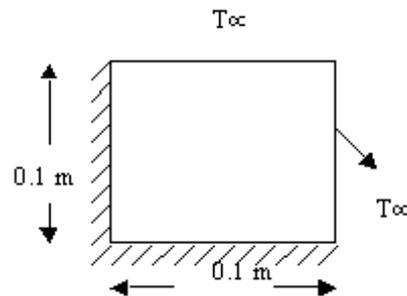

Figure 5
- Find the temperature distribution in the square plate as shown in figure5. Assume $K = 30 \text{ W/m K}$, $T_{\infty} = 50^{\circ}\text{C}$ and $q = 100 \text{ W/m}^3$.